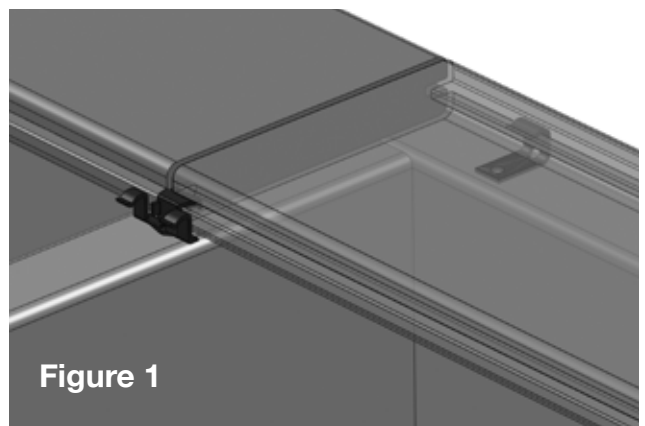

Figure 1
- With the deck board fully inserted into the clips, use Phantom Hidden Deck Fasteners to secure the board along the other side (Figure 1).